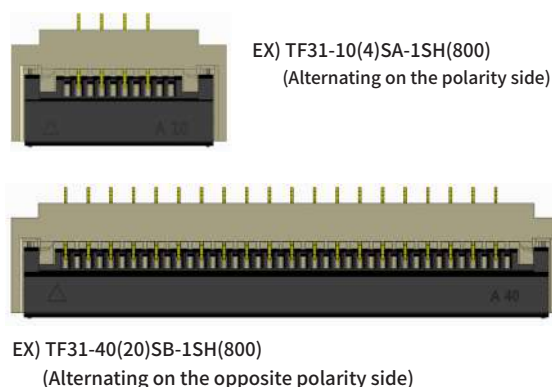

Figure.1
This series offers two different contact pitches of 0.5 and 1.0mm and two heights variations of 1.75 and 2.0mm. These options give engineers the ability to choose the connector that will best fit their design. (Figure. 1)
① ② ③ ④ ⑤ ⑥ ⑦ ⑧ ⑨
① Series Name : TF	⑥ Alternating direction : Please refer to Figure 1 on Page 1 No symbol : Standard type(all contacts loaded) A : Alternating contact type(Alternating on the polarity side) B : Alternating contact type(Alternating on the opposite polarity side)
② Series No. : 31	⑦ Contact Pitch : 0.5mm, 1mm
③ Standard Type : Number of contacts Alternating Contact Type : Mold size	⑧ Terminal Type SH : SMT horizontal mounting type
④ Standard Type : No symbol Alternating Contact Type : Number of contacts	⑨ Specification (800) : Partially Gold plated, Emboss tape packaging (3,000pcs/reel) (895) : Partially Gold plated, Emboss tape packaging (500pcs/reel)
⑤ Contact arrangement : Single(pole piece array)